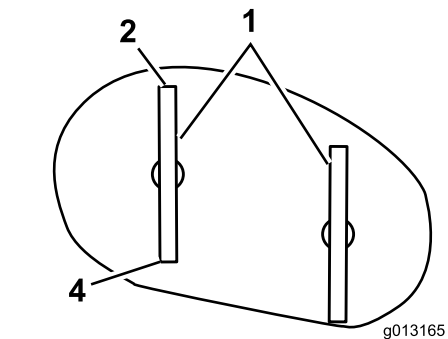

Figure 46
Carefully rotate the blades front to rear (Figure 46).
- Measure the distance between the front tip of the left blade and the flat surface (Figure 46).